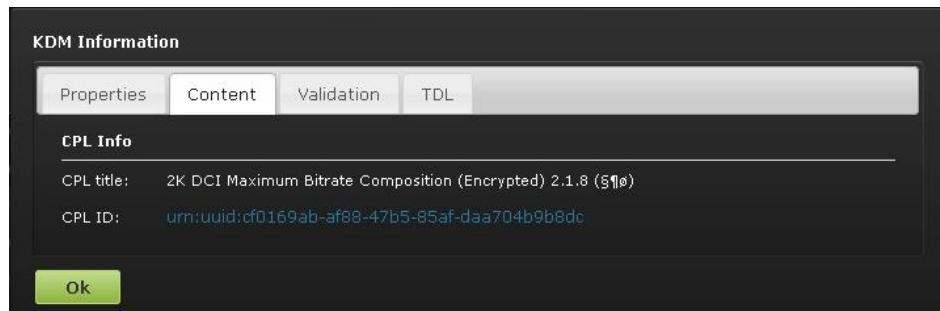

Figure 294: Content Tab
- The Content tab contains the following information about the related CPL (Figure 294):